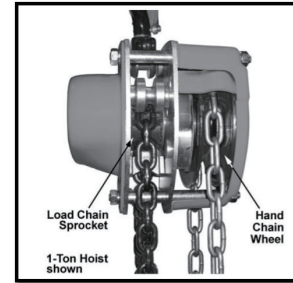

FIG 10
8. If installing entire new chain, insert end of hand chain into groove at top of hand chain wheel (see FIG 10). Rotate handwheel and pull chain through.
Install new load chain onto load chain sprocket as follows, referring to FIG 10: